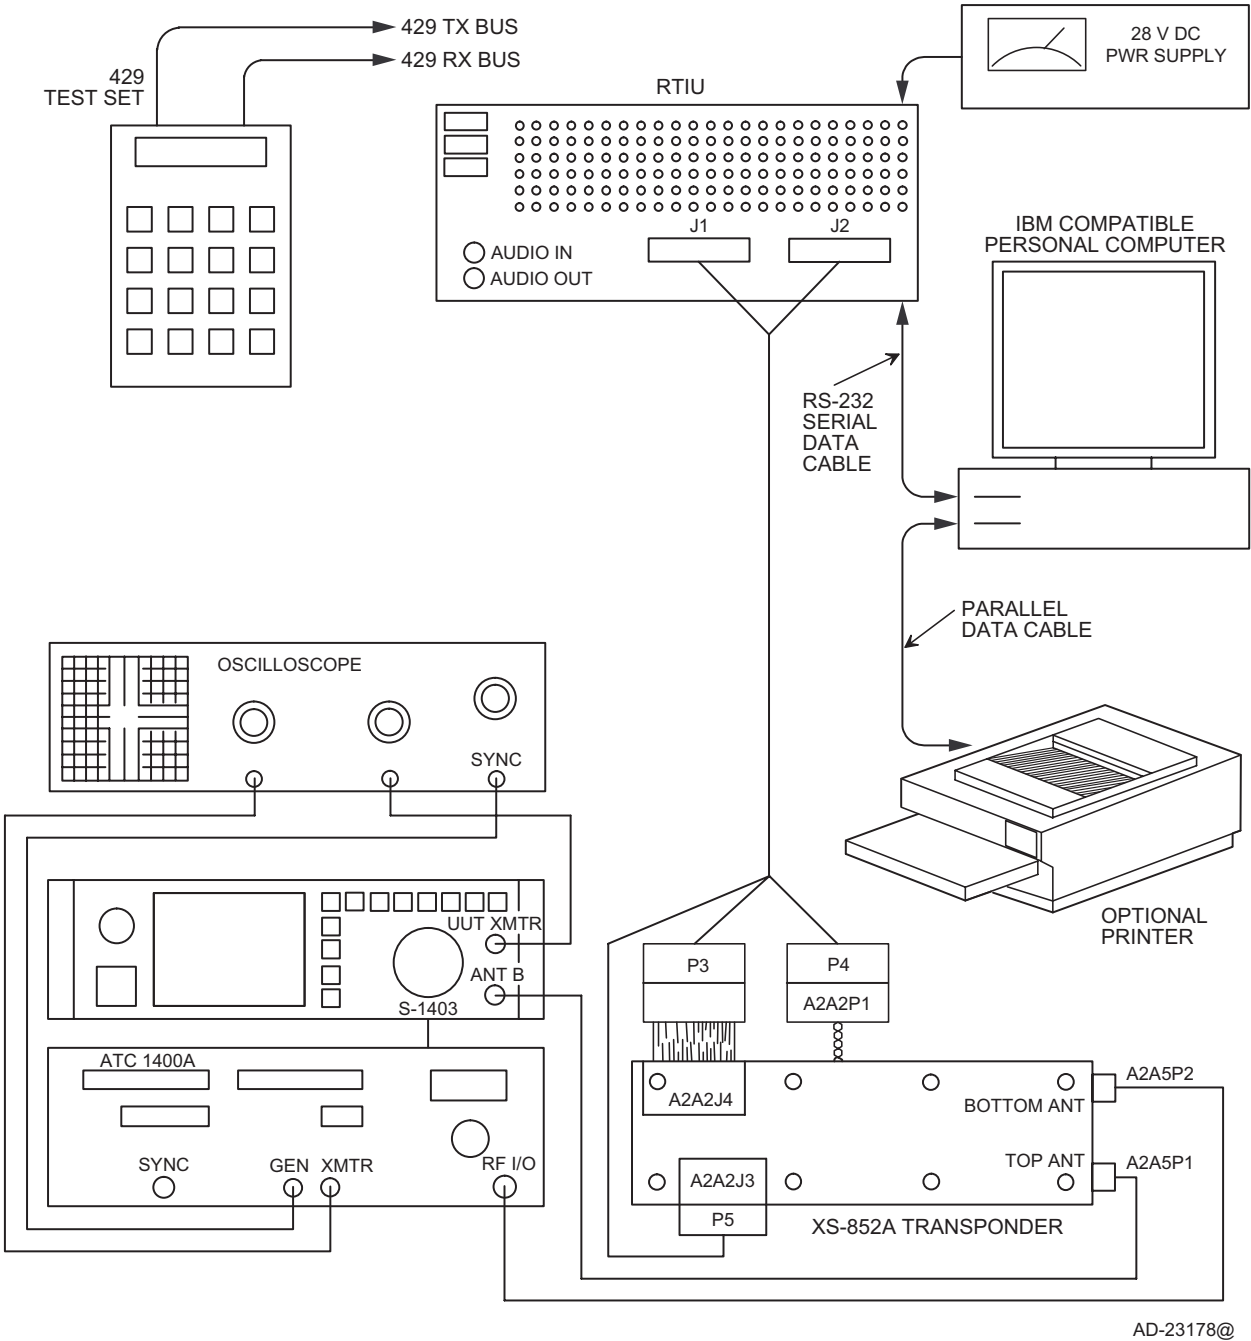
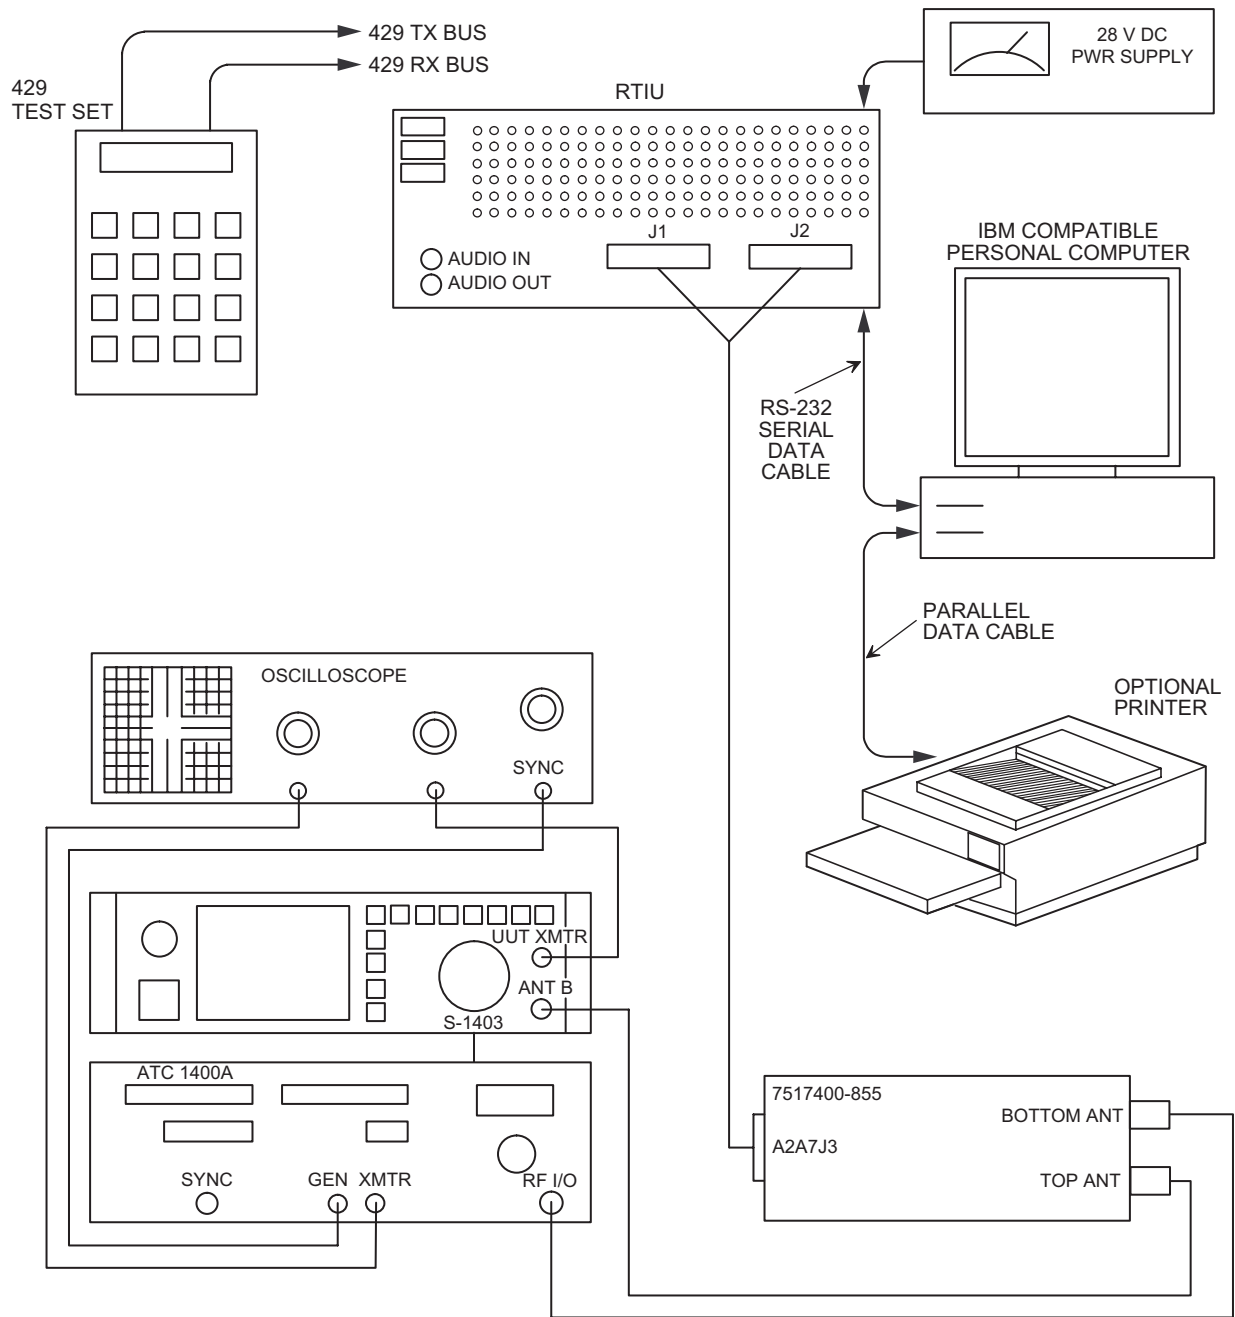

Figure 2. Test Equipment (-902, -903, -904)
Figure 3. Test Equipment (-855, -856, -857 -865,-866,-867, 875 Only)
REV LTR	<div>3. GENERAL INFORMATION</div> <div>3.1 All tests shall be performed at a temperature of 25 ± 10° C with less than 90 percent relative humidity and at a atmospheric pressure of 20 to 32 inches of mercury.</div> <div>3.2 No warm-up period is required for the module.</div> <div>3.3 To limit interference and power loss, it is recommended that transponder antenna cables be made of RG-214 or equivalent, 2 to 3 feet in length and a maximum VSWR of 1.3:1.</div> <div>3.4 The transponder power output is specified at the antenna port. All power readings shall be corrected for antenna cable losses and variations in power meter specifications.</div> <div>3.5 Where two antenna cables are required for testing diversity antenna operations, the two antenna cables shall be matched so that the cable loss between the two cables is within 0.2dB, and the propagation delay at 1090 MHz is within 10nsec.</div> <div>3.6 Connect the test equipment per Figure 1 for -901 module (XS-852), Figure 2 for -902, -903, -904 module (XS-852A/852B/852C) or Figure 3 for -855, -856, -857, (XS-855A, XS-855B, XS-855C) -865, -866, -867 (XS-856A, XS-856B, XS-856C) -875 (XS-857) (EPIC)</div> <div>3.7 Connect UUT TOP antenna port to ANT B RF port when using IFR S1403.</div> <div>3.8 Connect UUT BOTTOM antenna port of the RF I/O port when using IFR 1400A.</div> <div>3.9 Connect UUT BOTTOM antenna port to RF I/O port when using a SDX 2000.</div> <div>3.10 Connect UUT TOP antenna port to bottom port when using a SDX 2000.</div> <div>3.11 Connect 429 Test Set Transmitter Output and Receiver Input to the following:<div>-923 RTIU HARNESS Connect transmitter to RTIU Pins P1G6(HI) and P1H6(LO). Connect receiver to RTIU Pins P1Y6(HI) and P1X6(LO) (XPDR-&gt;TCAS 429 BUS)</div><div>-925 RTIU HARNESS Connect transmitter to Enhanced RTIU Adapter ARINC 429 Input jack. Connect receiver to Enhanced RTIU Adapter ARINC 429 Output jack.</div><div>-926 RTIU HARNESS Connect transmitter to RTIU Pins P1G6(HI) and P1H6(LO). Connect receiver to RTIU Pins P1Y6(HI) and P1X6(LO) (XPDR-&gt;TCAS 429 BUS)</div><div>NOTE: ARINC 429 Transmitter buses go to pins "P1Yn" and "P1Xn," where "n" is a row number on the RTIU front panel, an "P1" corresponds to the "J1" panel on the front panel. The RTIU pins which correspond to "P1Yn" and "P1Xn" are labeled "SPARE BUS." The "Y" column is labeled "HI" and the "X" column is labeled "LO."</div></div>